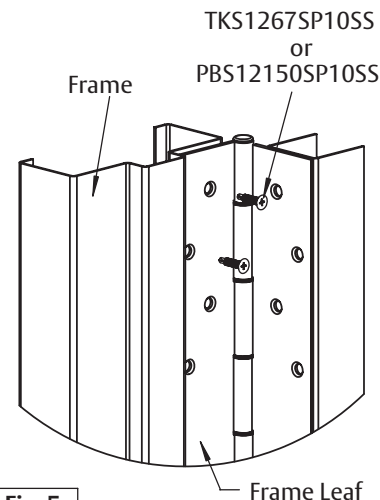

Fig. 5
B. Attaching hinge to frame (Fig 5):